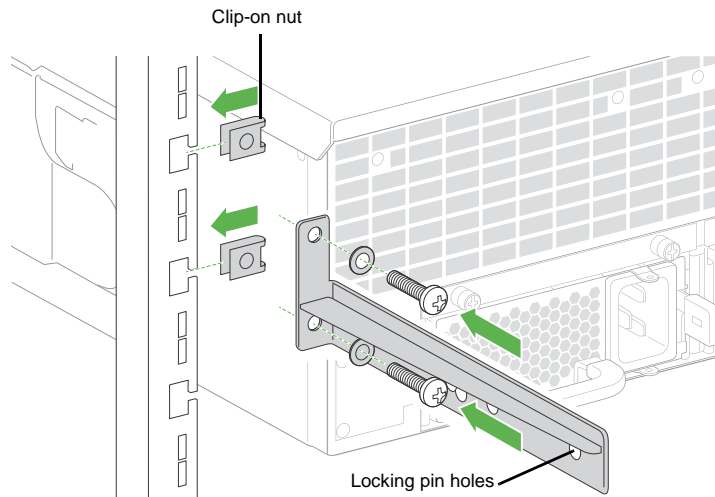

Figure 1.3 Attaching the Left Rack-Attachment Bracket
- If you are using the *short or medium length rack-attachment bracket*, attach the clip-on nuts to the equipment rack over the holes that align with the bracket holes when placed on the equipment rack. See Figure 1.3.
- b. Position the left rack-attachment bracket over the holes previously identified on the equipment rack. The smooth side of the bracket should face the inside of the equipment rack, and the holes reserved for the cable management arm locking pin should be on the bottom, as shown in Figure 1.3.